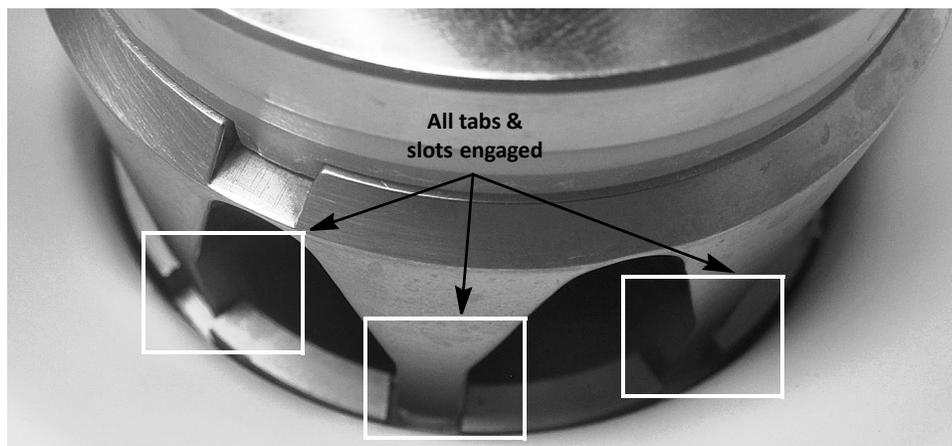

Figure 12. .
- Carefully rotate the extruder head until the tabs on the extruder head drop into the slots on the evaporator plate, as shown in Figure 12.. When the auger/extruder head assembly is rotated to the proper position, it will drop about 1/4 inch to more fully engage the motor drive shaft.